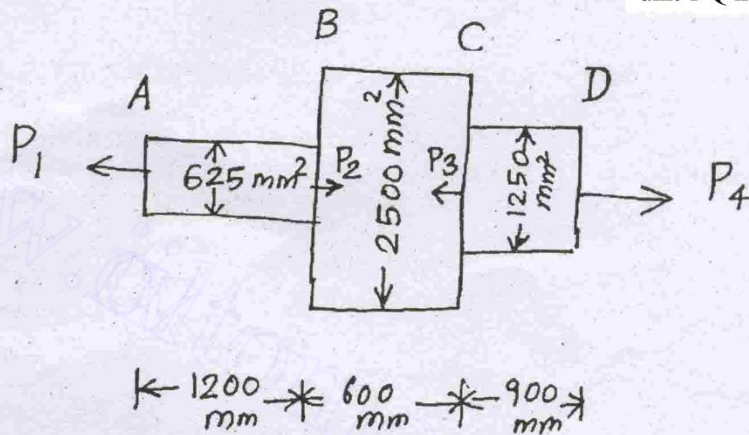

Fig. Q. 11(a)
11. (a) (i) Derive an expression for change in length of a circular bar with uniformly varying diameter and subjected to an axial tensile load 'P' (8)
- (ii) A member is subjected to point loads as shown in Fig. Q. 11(a). Calculate the force P, necessary for equilibrium if $P_1 = 45$ kN, $P_3 = 450$ kN and $P_4 = 130$ kN. Determine total elongation of the member, assuming the modulus of elasticity to be $E = 2.1 \times 10^5$ N/mm².